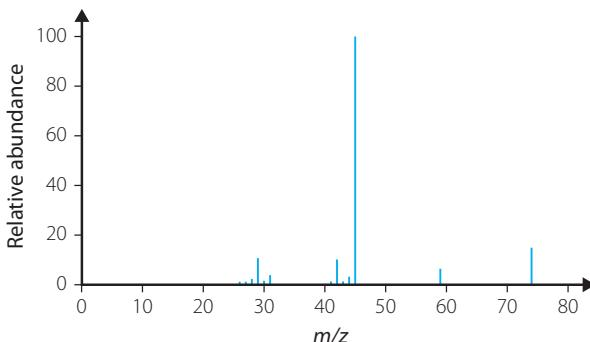

FIGURE 15.33 Mass spectrum of compound X
- b** The mass spectrum for X is shown in Figure 15.33.